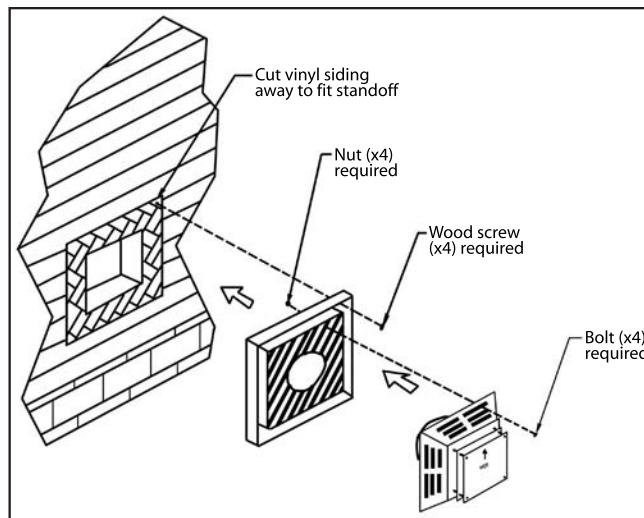

Figure 27: Installing Vent Cap with Vinyl Siding Stand-Off.
- For buildings with vinyl siding, a vinyl siding standoff, should be installed between the vent cap and the exterior wall (see Figure 27). Attach the vinyl siding standoff to the horizontal termination. The vinyl siding standoff prevents excessive heat from possibly melting the vinyl siding material. Note that the horizontal vent termination bolts onto the flat portion of the vinyl siding standoff (shaded area in Figure 27), so that an air space will exist between the wall and the vent termination.